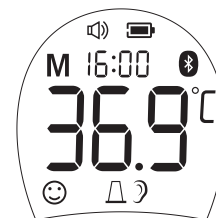

Figure 8
- The thermometer will automatically memorize the last 30 temperature readings. Each memory also records the measurement date/time/mode icon. Each time the **Power Button** is pressed, the screen displays past readings that correspond with a number 1-30. The number 1 reflects the most recent reading, while the number 30 reveals the oldest reading stored in memory. (See Figure 8)